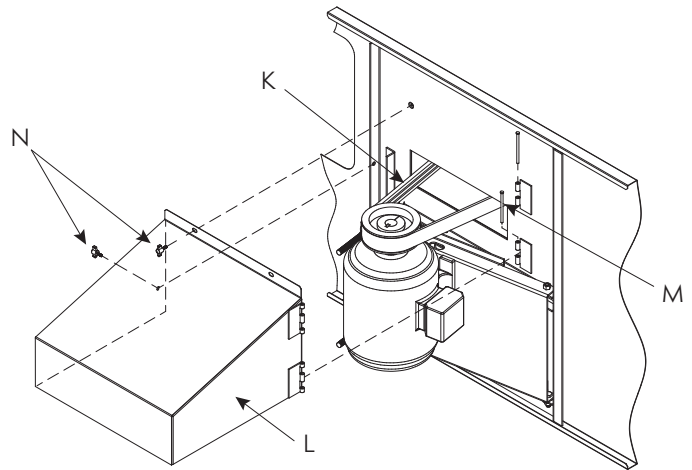

Figure 17b – Motor Guard and Power-Band Belt Installation
7. Install Power-Band belt **K** (**Figure 17b**) around fan sheave and motor sheave. Tighten belt by adjusting nuts on J-bolts. Do not overtighten the belts. The center of the belt should deflect approximately 1/2" (12.7 mm) in the horizontal plane with moderate hand pressure.
10. To install motor guard **L**, match up hinges and install hinge pins **M** as shown in **Figure 17b**.